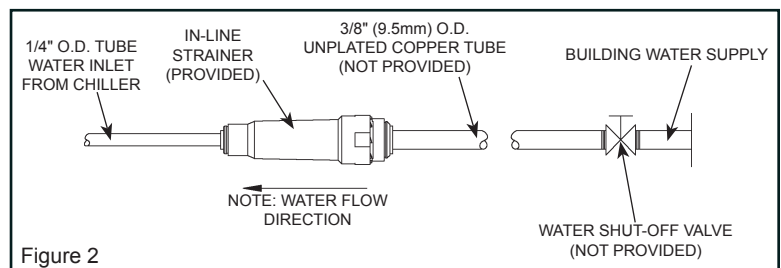

Figure 2
3. Connect in-line water strainer(Provided, Item 16) to chiller water inlet. See Figure 2.
4. Connect in-line water strainer to building supply with a water shut-off valve (not provided). See Figure 2.